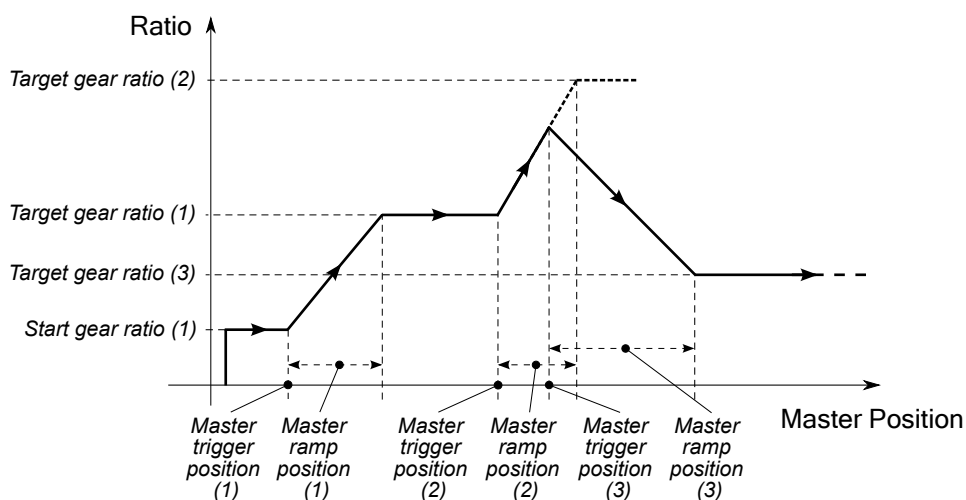

Figure 21.7. Motion profile in *Gear Mode*.
The *Gear Mode* is used to move the drive axis with position reference, according to a following ratio between the drive axis itself (slave axis) and the master axis. If during the motion the following ratio changes, then the drive executes an acceleration ramp in order to linearly join the actual following ratio with the set one. The *Figure 21.7* shows an example of how the following ratio can be changed by the user.
In the *Figure 21.7* example, when the master axis position exceeds the *GearMasterTriggerPosition* that has been set *Master trigger position (1)*, the drive executes an adjustment ramp in order to reach the new following ratio *TargetGearRatio (Target gear ratio (1))* in